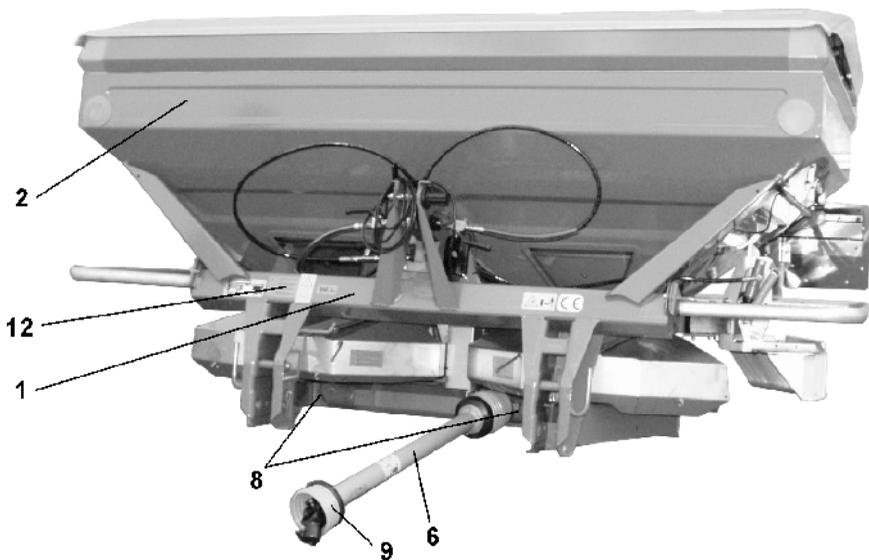

Fig. 3
- Frame (Fig. 3/1)
- Hopper (Fig. 3/2)
- PTO shaft (Fig. 3/6)
- Guard for shaft between centre and angular gearbox (Fig. 3/8)
- PTO shaft guard (Fig. 3/9)
- Safety symbols (warning signs) (Fig. 3/12)